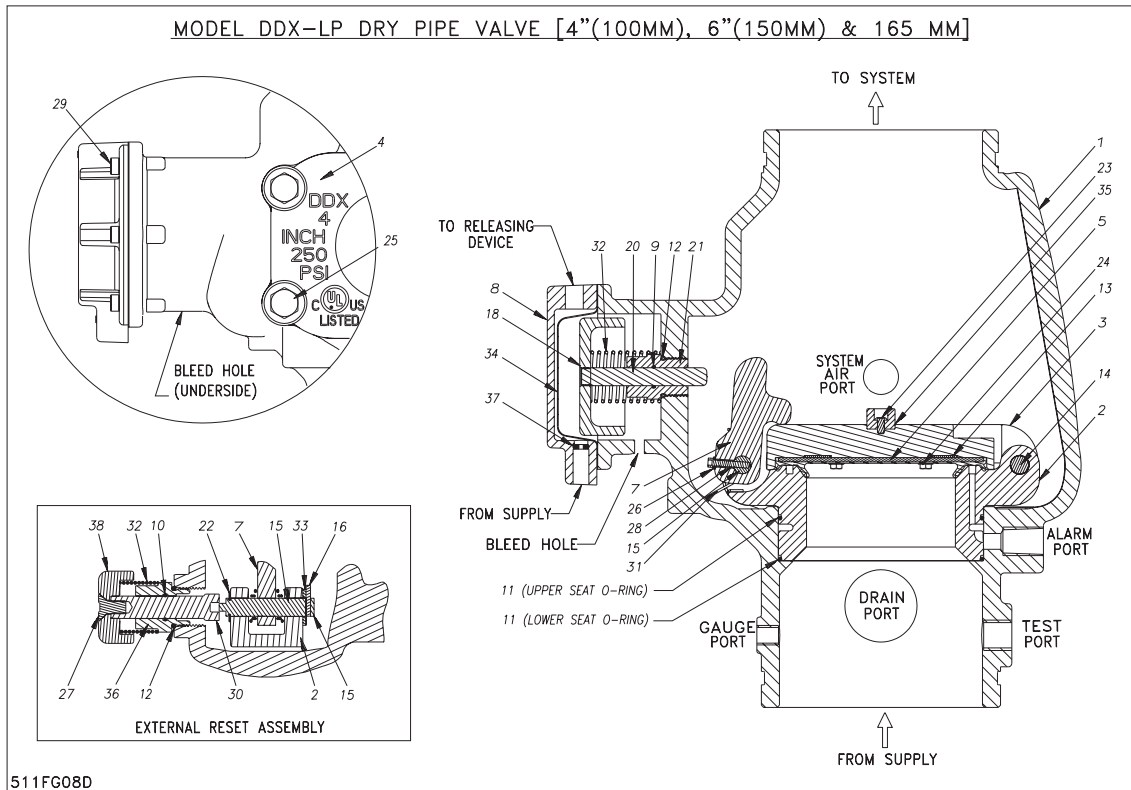
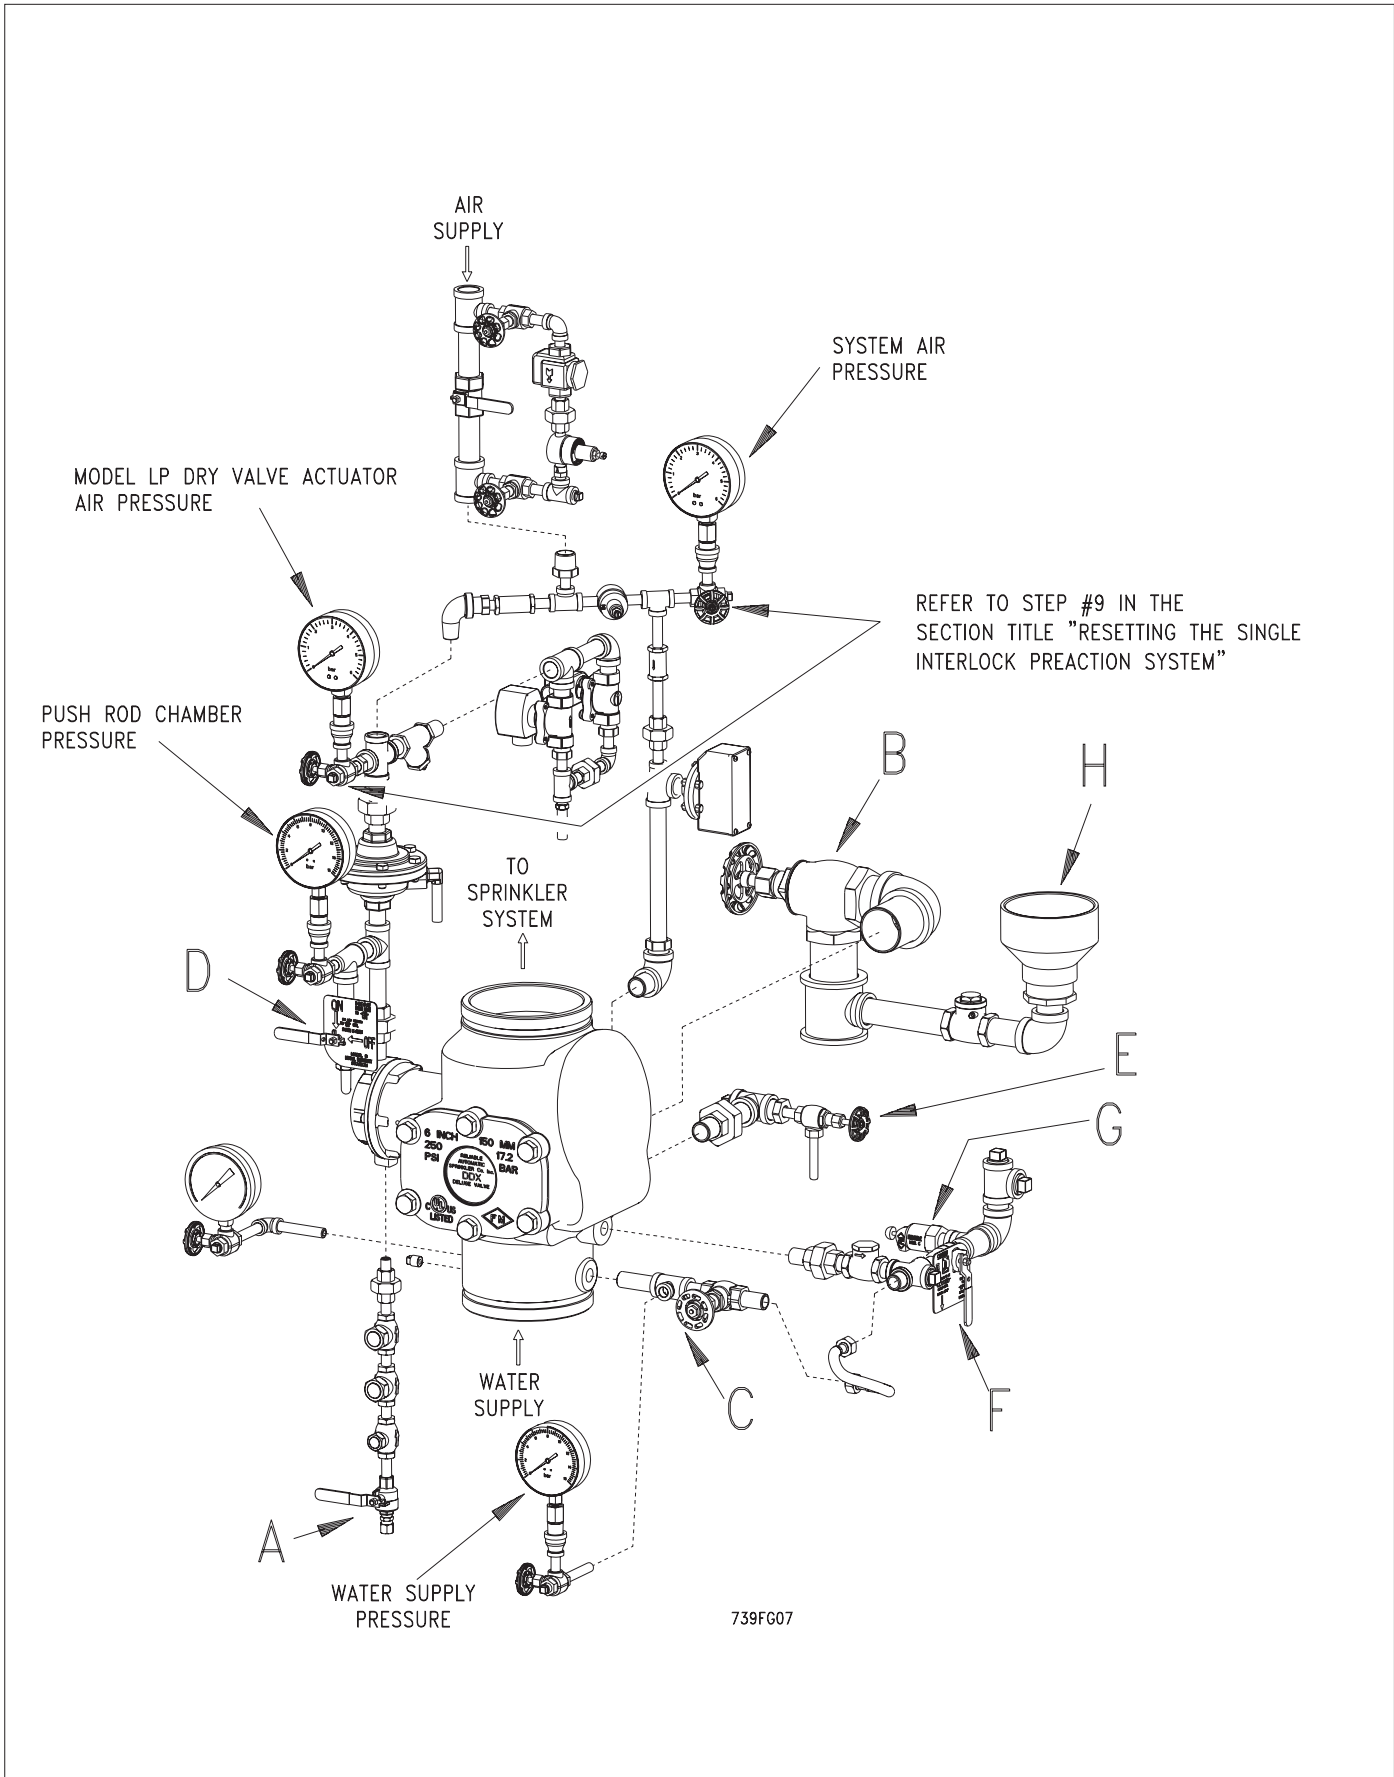

Fig. 6
Fig. 7
- Close the main valve controlling water supply (Fig. 7) to the Deluge Valve and close off the air supply to the sprinkler system at the air supply's source.
- Close the pushrod chamber supply valve, valve A (Fig. 7).
- Open the main drain valve, valve B (Fig. 7), and drain system.
- Open all drain valves and vents at low points throughout the system, closing them when flow of water has stopped. Open valve D (Fig. 7). **Note:** The above steps accomplish the relieving of pressure in the pushrod chamber of the Deluge Valve.
- With Valve F (Fig. 7) open, push in the plunger of ball drip valve, valve G (Fig. 7), to force the ball from its seat, and drain any water in the alarm line.
- With the Model B Manual Emergency Station, valve D (Fig. 7), open, push in and rotate the deluge valve's external reset knob (#38, Fig. 6) clockwise until you hear a distinct clicking noise, indicating that the clapper has closed. **Note:** The reset knob can be rotated only after pressure in the pushrod chamber has been reduced to atmospheric conditions (0 psig).
- Close valve F (Fig. 7). Activate a solenoid-release pull station (Or other means of electric detection.) to energize the solenoid valve(s). Silence any alarms or audible tones on the releasing/control panel. Open valve A (Fig. 7) to begin pressurizing the push-rod chamber and its associated piping, while simultaneously venting any entrapped air. **Note:** This venting of the air from the actuation piping is very important to ensure proper system operation and avoidance of falsely tripping the Deluge Valve.
9. Upon seeing a solid flow of water from the drain tubing, and the cessation of the “gurgling” sound at the drip cup, H (Fig. 7), close valve D (Fig. 7) then rapidly apply compressed air or nitrogen into the to chamber of the Model LP Dry Valve Actuator until the pressure conforms to Table A levels as indicated on the air pressure gauge. The Model LP Dry Valve Actuator will close during this pressurizing process and the water will stop flowing into the drip cup. At this point, the pressure gauge which indicates push-rod chamber pressure (Fig. 7) will equalize to the available water supply pressure. **Note:** It may be necessary to isolate the various pressure gauges in the trim during system set-up by closing the 1/4” 3-way valves (#68 Fig. 2) that they are connected to. During set-up, pressure fluctuations may occur that can be potentially damaging to the gauges.
11. Open valve F (Fig. 7). Open slightly the main valve controlling water supply (Fig. 7) to the deluge valve, closing drain valve B (Fig. 7) when water flows. Observe if water leaks through the ball drip valve, valve G (Fig. 7), into the drip cup, H (Fig. 7). If no leak occurs, the deluge valve’s clapper is sealed. Open slowly, and verify that the main valve controlling water supply is fully opened and properly monitored.
12. Verify that valve A (Fig. 7) and valve F (Fig. 7) are open.
13. Secure the handle of the Model B Manual Emergency Station, valve D (Fig. 7), in the OFF position with a nylon tie (#64, Fig. 2).
7. Testing alarms — make sure that valve F (Fig. 7) is open. Open valve C (Fig. 7) permitting water from the supply to flow to alarm portion of the trim. Typical devices that are connected to this section of the trim are pressure switches and/or a mechanical sprinkler alarms (water motor). After testing has been completed, close this valve securely. Push in on the plunger of ball drip valve G (Fig. 7) until all of the water has drained from the alarm line.
8. Operational test — Open the Model B Manual Emergency Station, valve D (Fig. 7). **Note:** An operational test will cause the deluge valve to open and flow water into the sprinkler system.
9. Secure the Model B Manual Emergency Station, valve D (Fig. 7), in the OFF position with a nylon tie (#64, Fig. 2) after the deluge valve is reset.
Refer to Fig. 7
2. Alarm line—be sure that valve F (Fig. 7) is opened and remains in this position.
3. Other trimming valves — check that valve A (Fig. 7) is open as well as all of the pressure gauge’s 1/4” 3-way valves. Valves C, D, and E (Fig. 7) should be closed.
4. Ball drip valve, valve G (Fig. 7)—make sure that valve F (Fig. 7) is open. Push in on the plunger to be sure the ball check is off its seat. If no water appears, the deluge valve’s water seat is tight. Inspect the bleed hole (see Fig. 7) on the underside of the deluge valve’s push rod chamber for leakage.
5. System pneumatic pressure — check the Model LP Dry Valve Actuator’s air pressure gauge (Fig. 7) and water supply pressure gauge (Fig. 7) for conformance to Table A.
6. Releasing device - Model LP Dry Valve Actuator (Fig. 7). Verify that the outlet is not leaking water. Check the Model LP Dry Valve Actuator’s air pressure gauge (Fig. 7) for proper pressure settings. Verify that the tubing line from the actuator is not pinched or crushed, which could prevent proper operation of the deluge valve.
2. Leakage out of the ball drip valve G (Fig. 7).
This condition can be caused by leakage past the system side of the Model DDX Deluge Valve's seal faceplate subassembly (#5, Fig. 6). Be sure that this surface is free of any type of debris. To eliminate leakage due to a water column, refer to the section in this bulletin marked "Draining Excess/Condensate Water From System". If the problem continues proceed to the following section.
b. Leakage, air or water from the ball drip valve, G (Fig. 7):
If system air is leaking out the ball drip valve, the problem is either damage to the airside of the Model DDX Deluge Valve's seal faceplate subassembly (#5, Fig. 6), seat (#2, Fig. 6), or the upper seat O-ring (#11, Fig. 6).
If supply water is leaking out the ball drip valve, the problem could be caused by damage to the Model DDX Deluge Valve's seal faceplate subassembly (#5, Fig. 6), seat (#2, Fig. 6), or lower seat O-ring (#11, Fig. 6). The following section provides instructions to correct both conditions:
A) Shut down the valve controlling the water supply to the Deluge Valve and open the main drain valve B (Fig. 7). Open the water column drain valve E (Fig. 7). Close the push rod chamber supply valve A (Fig. 7) and open the Model B Manual Emergency Station D (Fig. 7).
B) Remove the deluge valve's front (handhold) cover (#4, Fig. 6) and inspect the seat (#2, Fig. 6), clapper (#3, Fig. 6), and seal faceplate subassembly (#5, Fig. 6) for damage. If inspection indicates damage to the clapper (#3, Fig. 6) or seal faceplate subassembly (#5, Fig. 6) only, then the clapper subassembly can be removed as follows:
At the rear of the deluge valve, disconnect the water column drain trim section at the $\frac{3}{4}$ " union (#68, Fig. 2). Remove the retaining ring (handhold cover side) from the clapper hinge pin (#14, Fig. 6) and push this pin through the water column drain line and remove the clapper subassembly. Remove the four retaining screws (#24, Fig. 6) holding the seal faceplate subassembly (#5, Fig. 6). Inspect the clapper (#3, Fig. 6) visually before re-installing. Apply a small amount of silicone-based lubricant to the four retaining screws. Install a new seal faceplate subassembly. Torque the retaining screws to approximately 40 inch-pounds and reassemble.
If the seat (#2, Fig. 6) is damaged or it is suspected that the leakage is through the lower O-ring (#11, Fig. 6), the seat-clapper subassembly is easily removed as a unit as follows: Using a $\frac{5}{16}$ " Allen wrench, remove the two $\frac{3}{8}$ " NPT pipe plugs (#19 (not shown) Fig. 6) located on the side of the Model DDX Deluge Valve. The seat-clapper subassembly is retained by two locking pins (#17 (not shown) Fig. 6). The centers of these pins have a $\frac{1}{4}$ "-20 threaded hole. Remove the two locking pins by engaging them with a $\frac{1}{4}$ "-20 screw or threaded rod and pulling them out.
Note: The two locking pins are not threaded, so turning them with the attached $\frac{1}{4}$ "-20 screw or threaded rod is not recommended. A proven method is to use $\frac{1}{4}$ "-20 threaded rod with a locknut on the un-inserted end. Grab hold of the locknut with pliers or vice-grips and tap the pliers or vice-grips in the direction moving away from the deluge valve. Doing so should pull the locking pins out of the deluge valve. With the clapper (#2, Fig. 6) in the closed position (not latched), dislodge the seat-clapper subassembly from the deluge valve's body by inserting two large flathead screw drivers under the lever and clapper mounting ears of the seat and pry up until the seat-clapper subassembly is free of its bore. Reach into the deluge valve and grasp the seat-clapper subassembly from the sides. Lift up and rotate the seat-clapper subassembly through 90 degrees about the main access of deluge valve so that the lever-side of the seat-clapper subassembly faces the outlet of the deluge valve. Rotate the seat-clapper subassembly around the centerline of the deluge valve until the top of the clapper faces the handhold opening and then pull it out clapper hinge-pin side first. Visually examine all of the components of the seat-clapper subassembly, replacing any component that appears damaged. New O-rings (#11, Fig. 6) should always be used for reassembly.